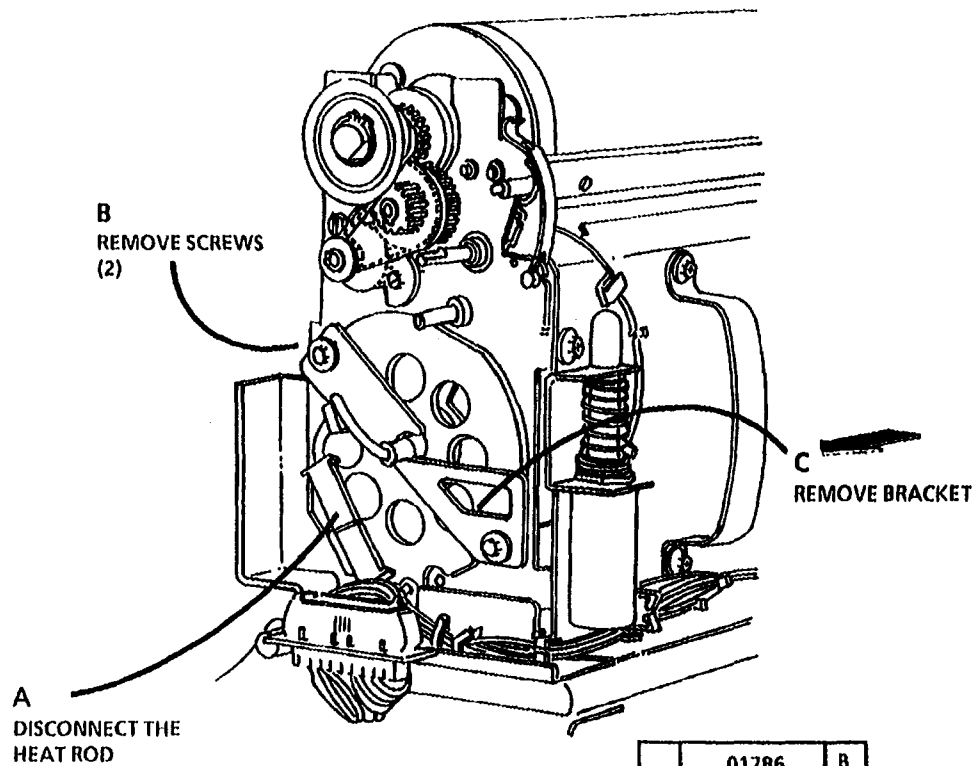

Figure 3. Prepare to Remove the Heat Rod
9. (Figure 3): Prepare to Remove the Fuser Heat Rod.